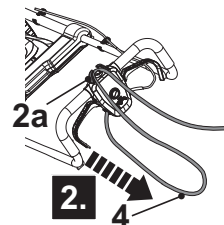

Fig. 9
2. Pull it over the cord retainer (2a) and gently tug on the power cord (4) to ensure that it is firmly secured (Fig. 9).